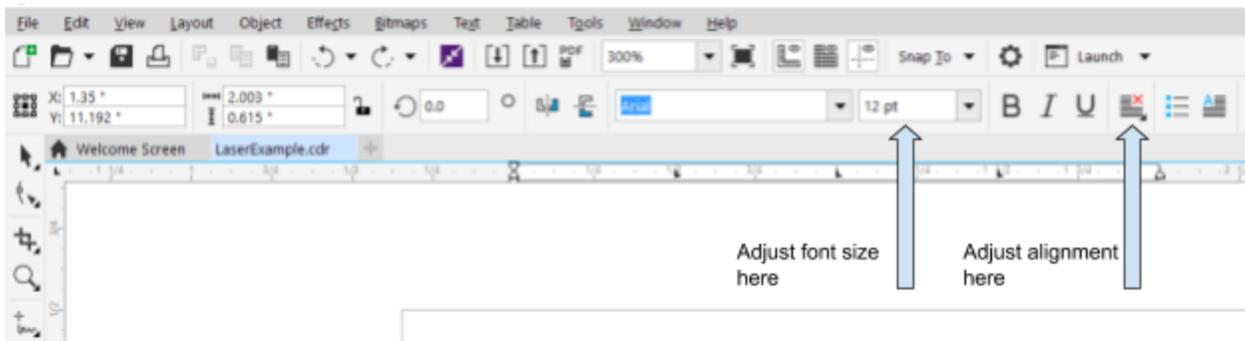

Figure 4 - Adjusting Font
3. Next change the text box to your name. Double click on “Your Name” to highlight the text and replace it with your name. Double click the text again to highlight it and adjust the alignment to “Center” and the font size to as large as you would like (Figure 4).